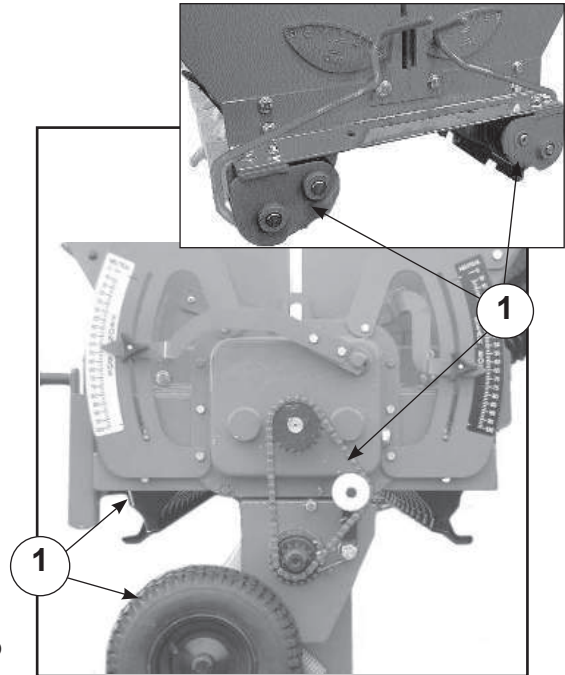

Fig 25
All drive chains (1) (Fig 25) should first be checked after every 20 hours of operation and thereafter weekly or after 75Ha of operation as follows:-